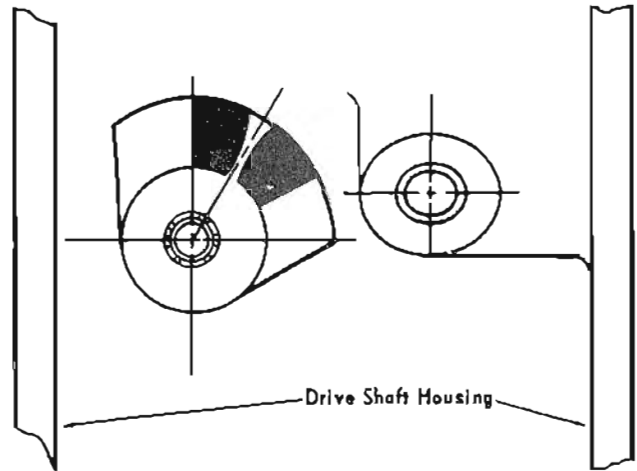

Figure 2. Cam Position - Forward Gear, Left Hand Rotation
- b. Reverse lock cam positioned properly for drive rotation. (Figures 2 and 3)